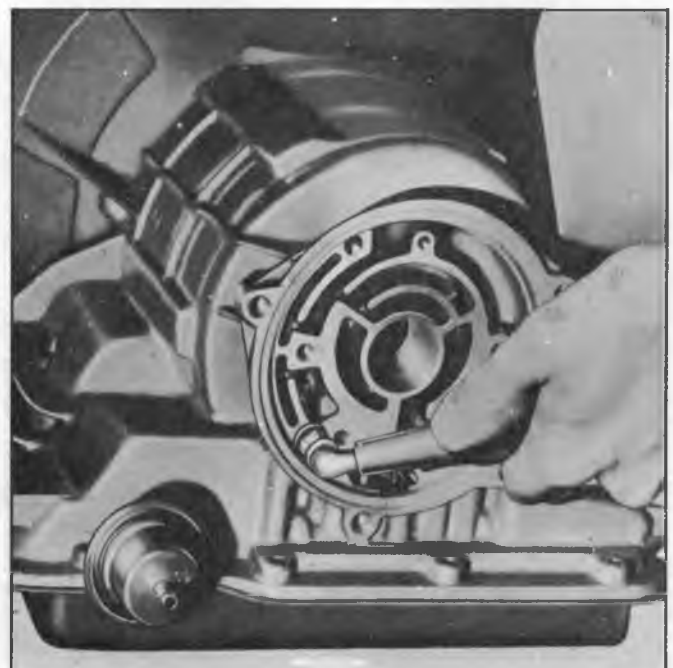

Fig. 9PG-Applying Air to Remove Rear Piston
18. Remove the rear piston by applying air to the reverse port in the rear of the transmission case as shown in Figure 9PG. Remove the inner and outer seals.